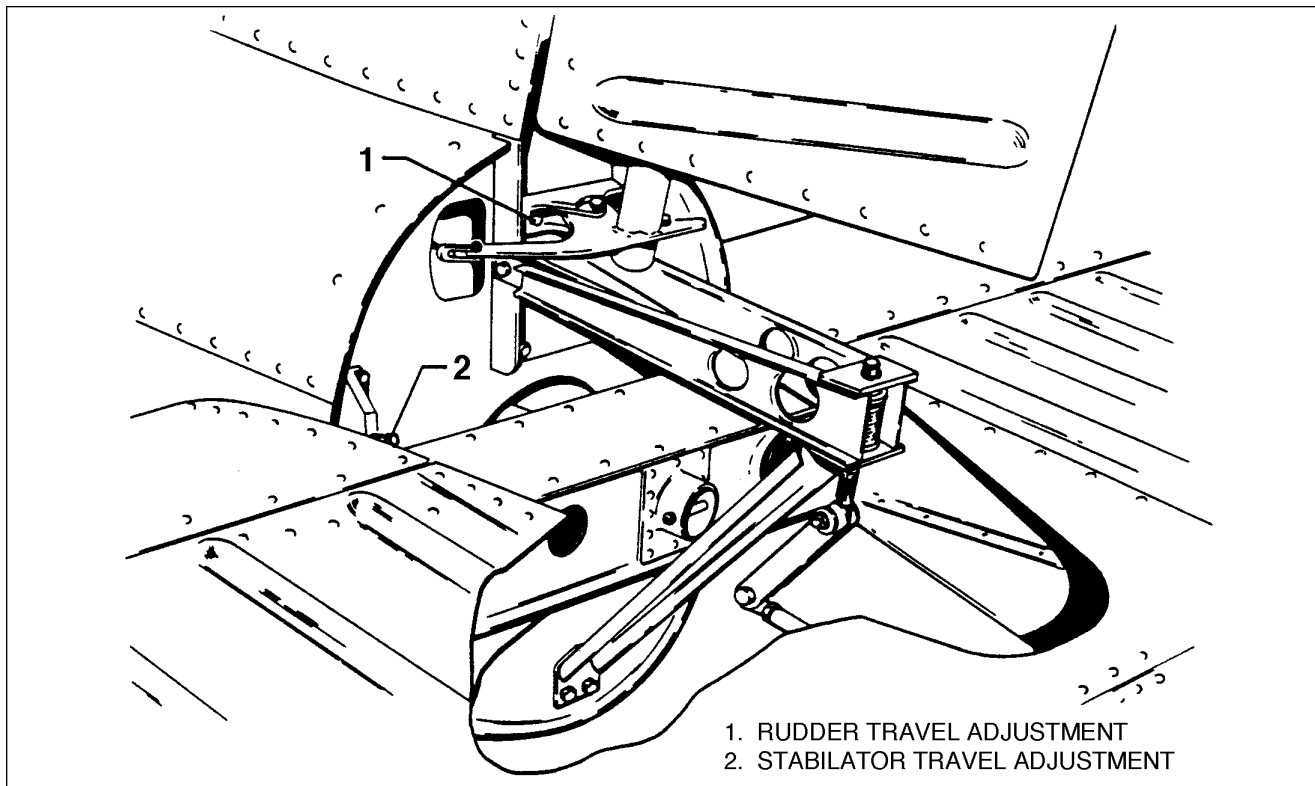

Figure 5-19. Rudder and Stabilator Travel Adjustments
3. Swing the rudder in the other direction and check the travel as directed in step 2. Should the rudder travel be incorrect, showing a gap between the tool and any part of the control surface, the tail cone fairing should be removed and the stop reset to obtain the correct rudder travel. (Refer to Figure 5-19.)